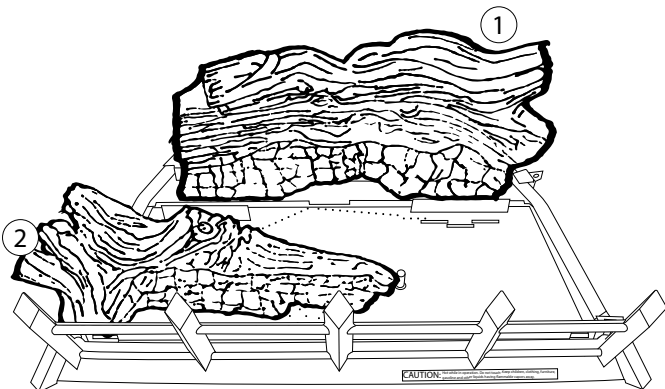

Figure 50.
2. Place the front left log (#2) on the pin located on the left side of the burner. (See Figure 50.)